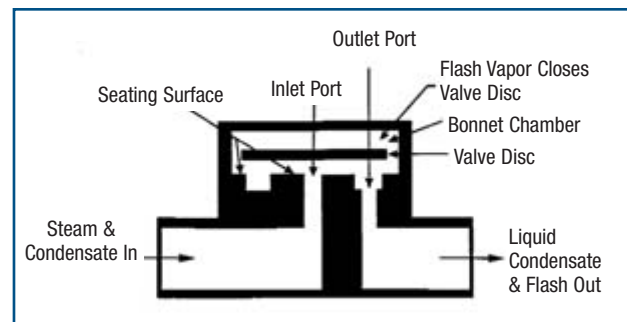

Figure 8. Thermodynamic Disc Steam Trap
**Disc traps.** Disc traps use the position of a flat disc to control steam and condensate flow. When condensate flows through the trap, the disc is raised, thereby causing the trap to open. As steam and air pass through the trap, the disc moves downward. The force that causes the disc to move downward is generated by the difference in pressure between the low-velocity steam above the disc and the high-velocity steam that flows through the narrow gap beneath the disc. Disc traps commonly have an intermittent discharge and, when they fail, they normally fail open. The configuration of a disc steam trap is shown in Figure 8. Generally, the air removal capability of this trap type is poor unless equipped with additional components (like the float and thermostatic trap).